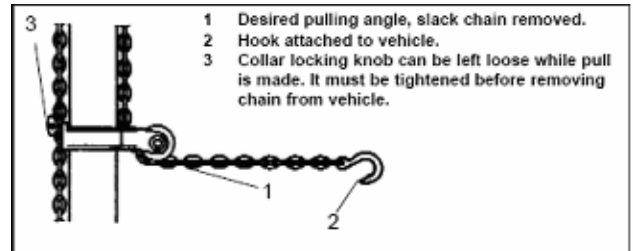

Figure 19
- Let tower chain hang free momentarily to remove twist. Then without twisting chain, attach hook to vehicle. Pull on tail end of chain to remove slack (see figure 19). Loosen collar locking knob and lower collar.